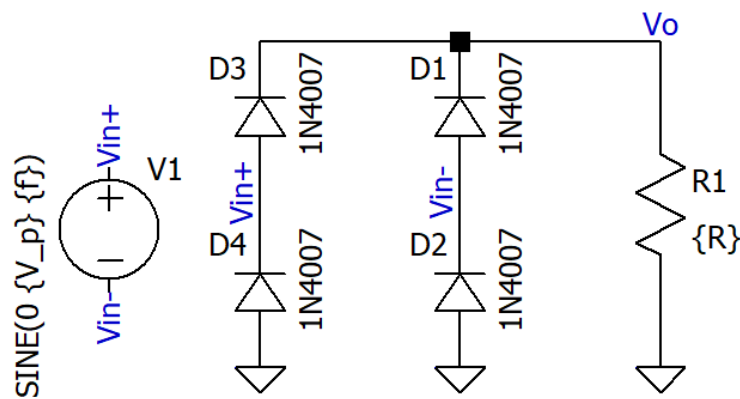

Figure 4.1 FWR with resistive load
1. Connect the Circuit as shown in Figure 4.1.
1. Connect the circuit as shown in Figure 4.1 in LT-spice Program.